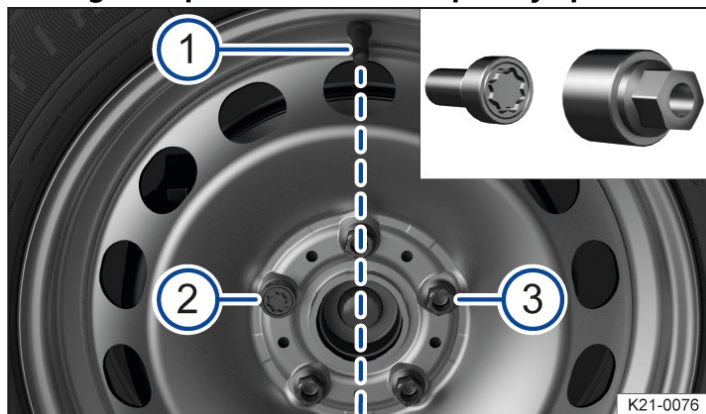

Fig. 2 Changing a wheel: tyre valve (1) and locations of the anti-theft wheel bolt (2) or (3).
On wheels with a wheel cover, the anti-theft wheel bolt must be screwed in at position *→ Fig. 2* (2) or (3) according to the position of the tyre valve (1). The wheel cover can otherwise not be fitted.